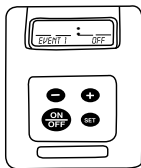

FIG. 4
- 3) Once the ON time is set, press SET button once. The display will now show EVENT 1 OFF. (See Fig 4)